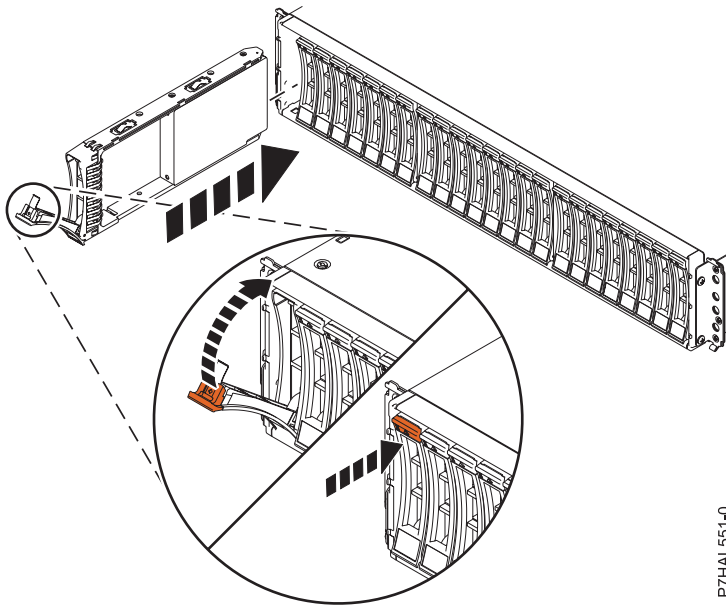

Figure 10. Installing a disk drive in the disk drive enclosure
3. With the handle in the unlocked position, support the bottom of the disk drive as you align it with the guide rails in the disk drive enclosure. See Figure 10 on page 10